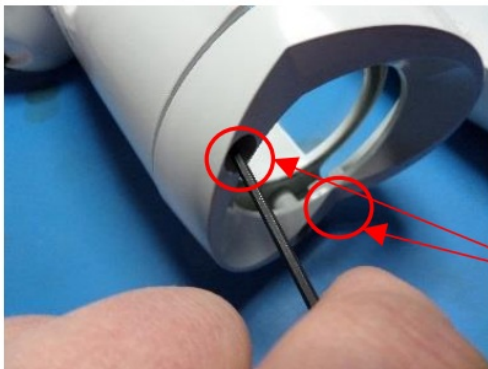

Fig 12
- First, loosen the front bezel Allen bolts by 3 turns. This will allow the housing cover to be removed easily (fig 12):
- The CHAT™ interface board is secured to one side of the housing interior. To gain access to the camera mounting plate – first remove the two retaining screws holding the CHAT™ board in place (Fig 12, above). Gently lift the CHAT™ board out of the housing (there will be fixed wires for the wiper attached) to reveal the camera mounting plate: